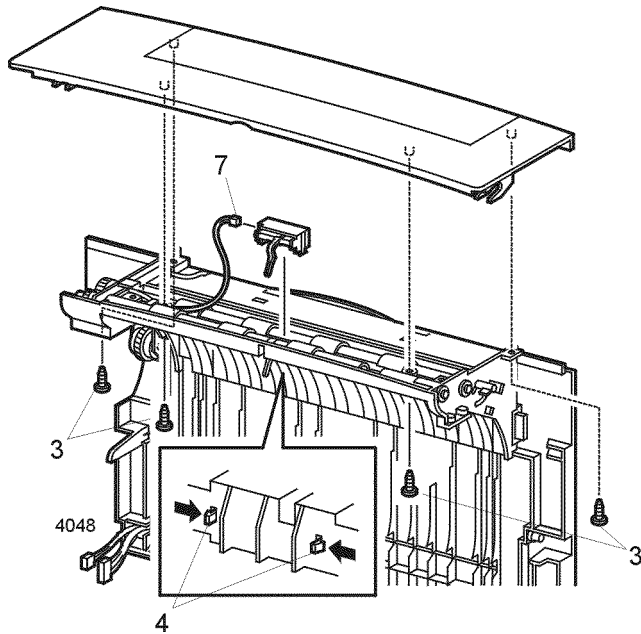

Figure 2 Upper Exit Chute
3. Remove the four screws that secure the Upper Exit Chute (Figure 2). Remove the top of the Rear Cover.
4. Release the two locking tabs that secure the Stack Full Sensor Holder to the Rear Cover (Figure 2).
7. Disconnect P/J507 from the Stack Full Sensor (Figure 2).